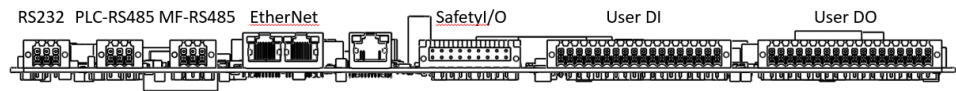
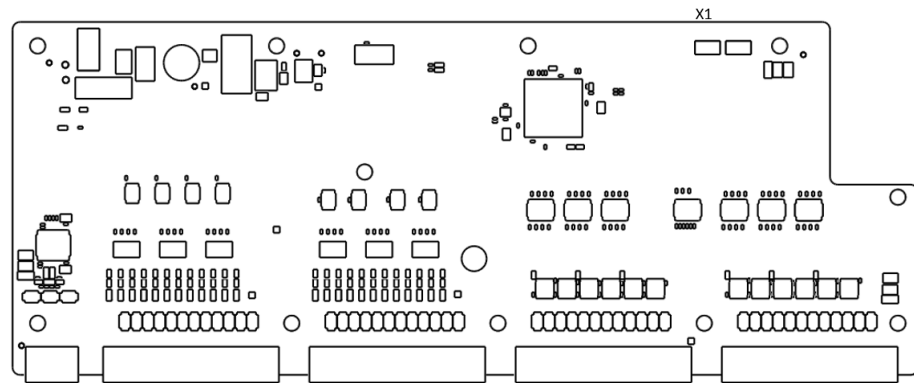

Figure 17-21 Diagram of connecting MCBS
Figure 17-22 Diagram of connecting BDIO-48IN-48OUTPCBA
- Step3. Connect one end of the ARC5-MCBS-48IO harness to the MCBS MF\_RS485 connector and the other end to the IO board X1 connector. As shown in Figure 17-21 and Figure 17-22.